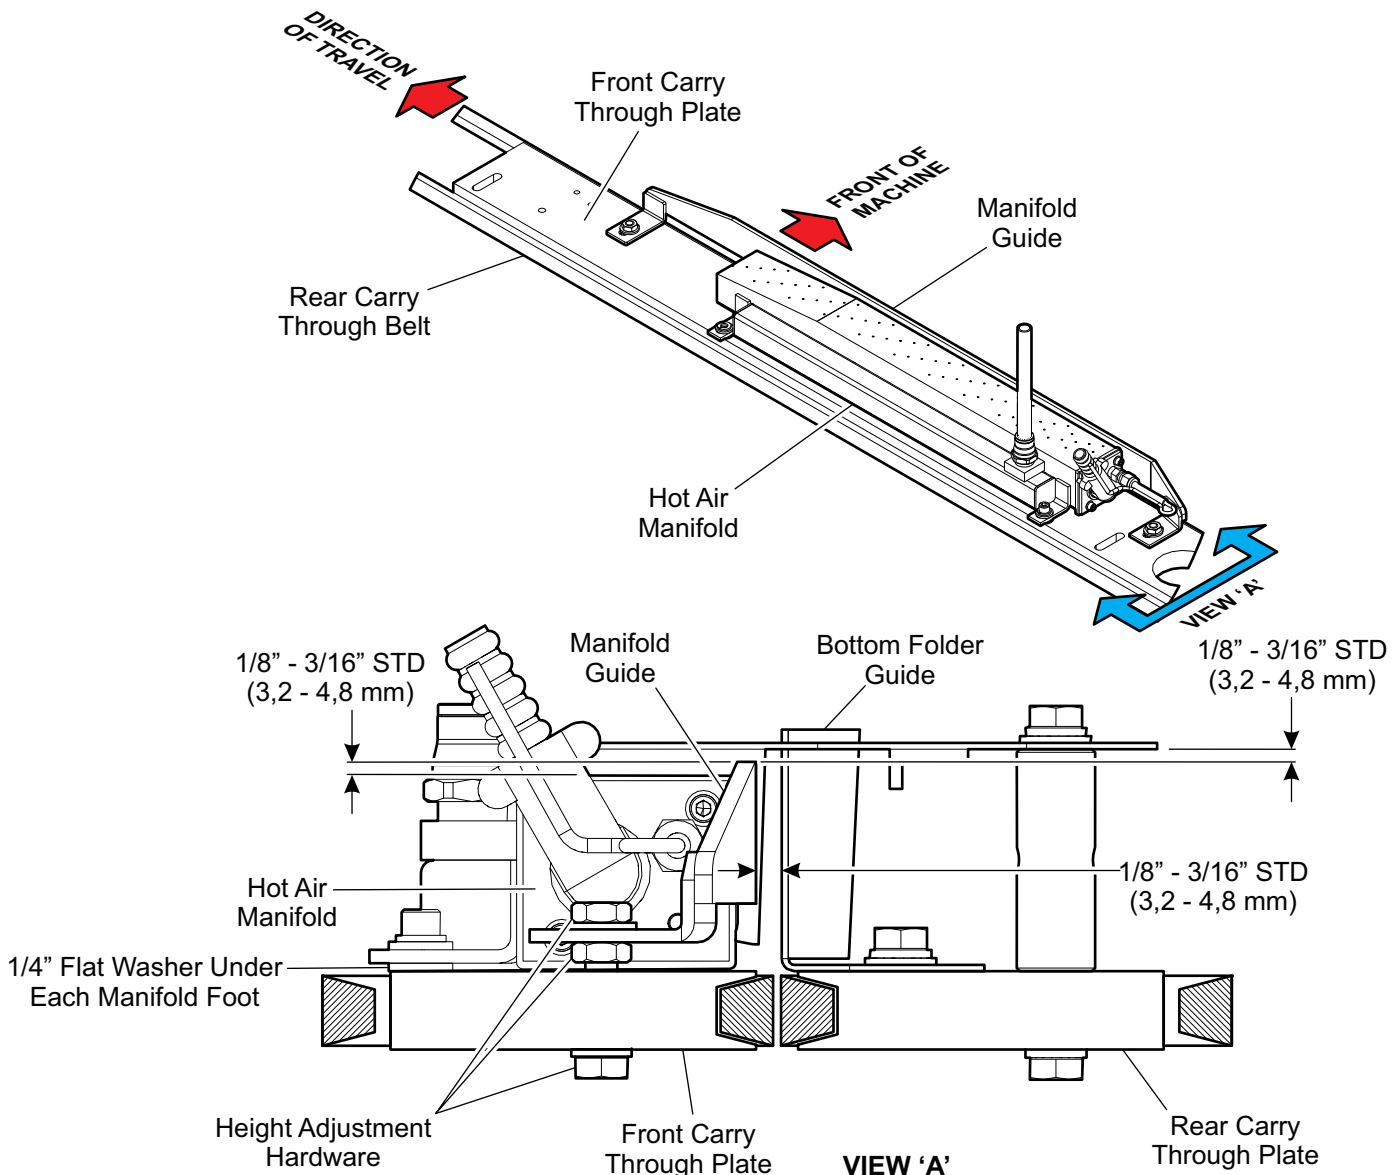

Figure 5-18: Heater Manifold Guide Positioning
The position of the manifold guide allows for the actual thickness of the bag top material. The guide must be aligned to be parallel with the carry through plate and the manifold top. Its top edge should rise above the hot air manifold's top by about $\frac{1}{4}$ inch (6,4mm) (see Figure 5-18: Heater Manifold Guide Positioning). The guide must be above the manifold to prevent the glue strip from coming into contact with the manifold surface. If the guide is not high enough over the manifold, the flap will come into con-
1. Horizontally: To adjust the manifold guide loosen the two height adjustment bolts holding it to the carry through plate. The gap (directly above the centerline between the carry through belts) between the bottom folder guide and the manifold guide should be about 1/8"–3/16" (3,2–4,8mm). This gap is a standard setting and may need to be adjusted based on the bag thickness (see Figure 5-18: Heater Manifold Guide Positioning).